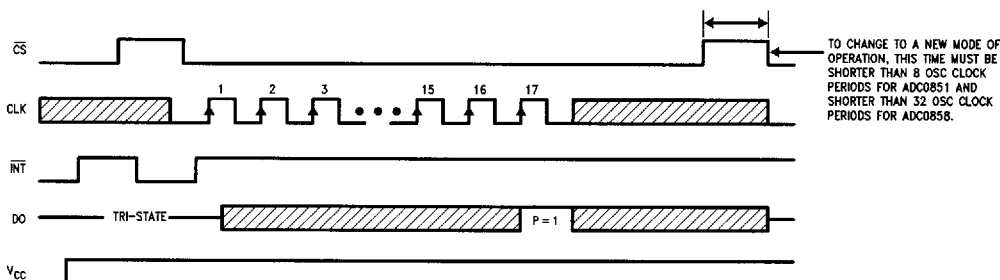

FIGURE 2. Read Power Flag after
Upon power up, the device is automatically configured in the watchdog mode. The status of the power flag bit, P, provides power failure indication to the microprocessor. The timing diagram of Figure 2 shows the sequence of events.
First consider the case of initial power up. After power is applied,  $\overline{CS}$  should be brought high. Bringing  $\overline{CS}$  high causes the  $\overline{INT}$  pin to go low, which signals the microprocessor that a failure has occurred. The microprocessor can then interrogate the device as to the type of failure by bringing  $\overline{CS}$  low. When  $\overline{CS}$  goes low, it resets the  $\overline{INT}$  pin to high and the output data is read starting at the first rising edge of clock (CLK) after  $\overline{CS}$  has gone low. Since this is the first read cycle after power up, the power flag bit, P, is set high and appears at the rising edge of the seventeenth clock cycle after  $\overline{CS}$  low is detected (Figure 2). After the power flag is read by the microprocessor,  $\overline{CS}$  is taken high. Note that the duration for which  $\overline{CS}$  remains high (after the power flag is read) must be less than eight oscillator clock periods for ADC0851 and less than thirty-two oscillator clock periods for ADC0858. This is required to interrupt the device from watchdog mode so that when  $\overline{CS}$  goes low, the device reads a valid data input (DI) word and configures to a new mode.